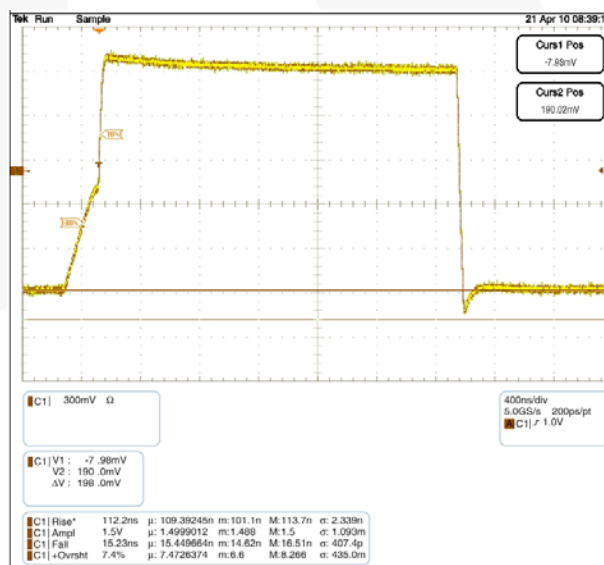

Figure 5. FXMA2102 Waveform C: 600 pF, R_{PU}: 2.2 K
is a slave on the B port, the Npassgates act as a low resistive short between both ports until either of the port's V_{CC}/2 thresholds are reached. After the RC time constant has reached the V_{CC}/2 threshold of either port, the port's edge detector triggers both dynamic drivers to drive their respective ports in the LOW-to-HIGH (LH) direction, accelerating the rising edge. The resulting rise time resembles the scope shot in Figure 5. Effectively, two distinct slew rates appear in rise time. The first slew rate (slower) is the RC time constant of the bus. The second slew rate (much faster) is the dynamic driver accelerating the edge.
The FXMA2102 dynamic drivers have enough current sourcing capability to drive a 400 pF capacitive bus. This is beneficial for instances when an I²C buffer / repeater is required. The I²C specification stipulates a maximum bus capacitance of 400 pF. If an I²C segment exceeds 400 pF, an I²C buffer / repeater is required to split the segment into two segments, each of which is less than 400 pF. Figure 5 is a scope shot of an FXMA2102 driving a lumped load of 600 pF. Notice the (30% - 70%) rise time is only 112 ns ($R_{PU} = 2.2\text{ K}$). This is well below the maximum edge rate of 300 ns. Not only does the FXMA2102 drive 400 pF, but it also provides excellent headroom below the I²C specification maximum edge rate of 300 ns.